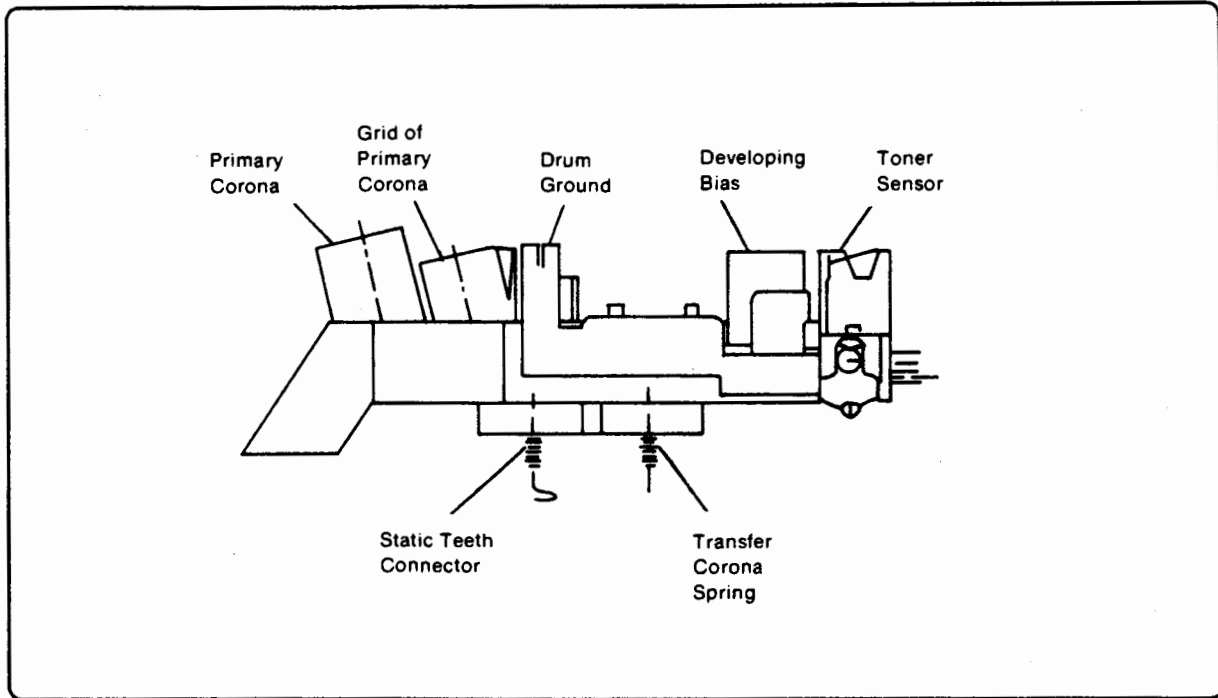

Figure 7-18. High-Voltage Power Supply Assembly Connector
2. Are the toner level sensor connectors damaged?	Inspect connectors for damage (see Figures 7-18 and 7-19). If damaged, correct or replace.